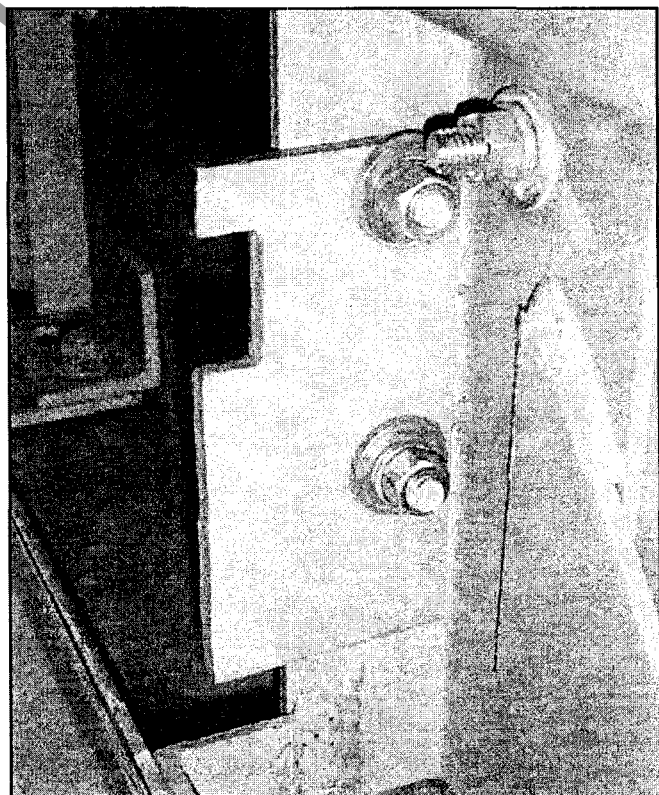

Figure 4-1 Remove Codeplate Hardware
1. Remove hardware attaching code plate to cubicle. (Figure 4.1)